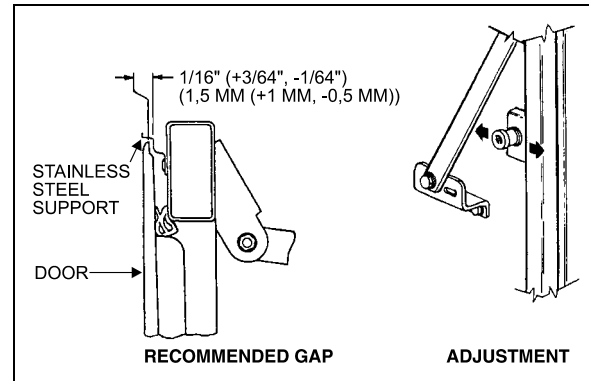

FIGURE 58: BAGGAGE COMPARTMENT DOOR 18069
6. Loosen the striker pins just enough to allow them to be moved with a hammer. Working from inside compartment and with the door closed (lower catches engaged), hit the pin washers to horizontally move the pins and consequently the door, while an outside assistant checks the fit. A gap of  $1/16'' + 3/64'' - 1/64''$  (1,5mm +1mm, -0,5mm) between the stainless steel support for the lateral panel and the door panel lip is recommended (Fig. 58).